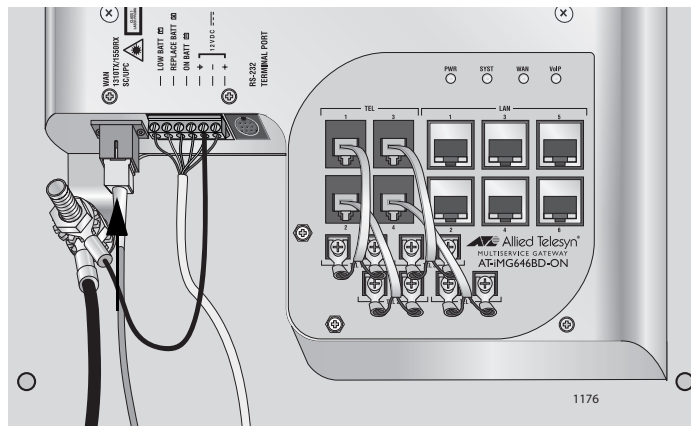

Figure 53. Connecting the Fiber Optic Cable
2. Connect the pigtail cable to the fiber optic port on the gateway, as shown in Figure 53.